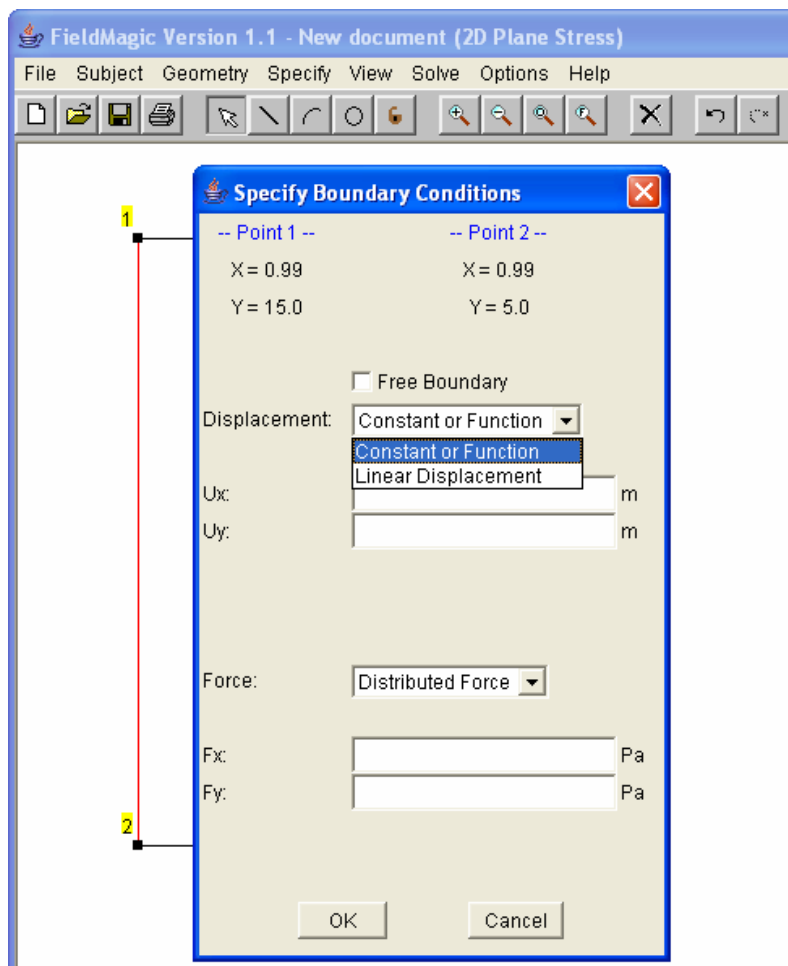
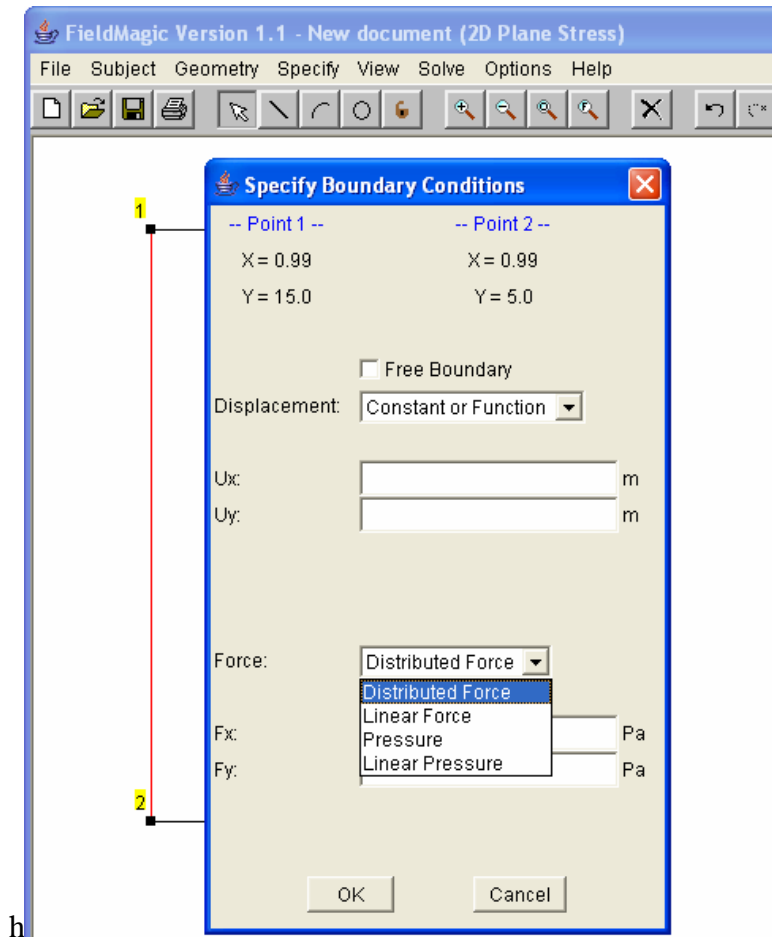

Figure 30. The available choices to set the displacement of an edge
Figure 31. The available choices to set the force on an edge
There are many possible boundary conditions for stress and strain problems. The boundary may be free (no force or set displacement), have a set displacement, have a given force/pressure, or both. These can occur in any combination of directions: the X-direction, Y-direction, or both. Although it is possible to set both displacement and force to a given boundary in the same direction (conflicting boundary conditions), FieldMagic neglects the force, giving higher precedence to the displacement value. Along with directional options, FieldMagic allows other options for prescribing boundary conditions. These are in the drop-down menus and are shown in Figure 30 for displacement and Figure 31 for force. The edge can be set to a free boundary in either of two ways: (1) check the box labeled free boundary, or (2) leave all fields blank and click “OK”. The linear option is not available when prescribing the boundary conditions of a circle, due to starting and ending points 1 and 2 being undefined. Entering conditions into all visible fields is not required; if information is missing, FieldMagic will show this by turning the required field red.